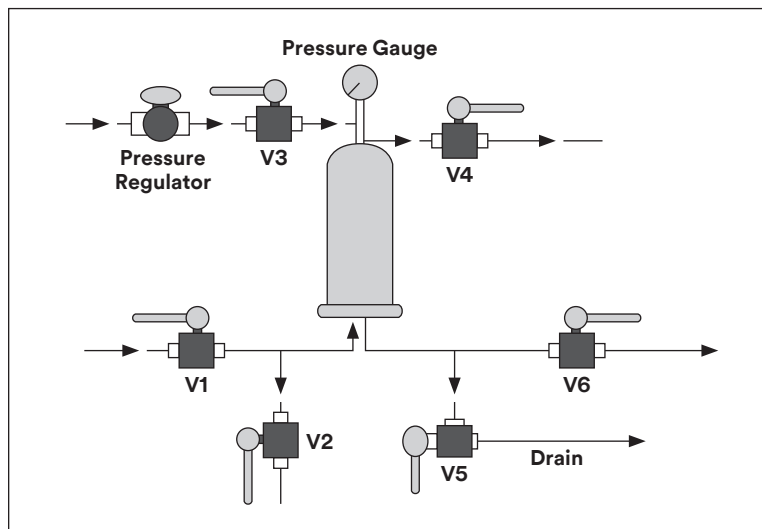

Figure 1. Schematic of the Manual PHT.
The 3M™ 101 Series Automated Integrity Tester can be used to perform a PHT. When using the 3M 101 Series unit, follow the installation instructions for connecting the unit to the upstream valve as shown in Figure 1. Consult the appropriate 3M Purification Inc. literature for the test pressure and PHT value for the filter cartridge to be used or calculate the maximum allowable value using the following equation. Program these values into the 3M 101 Series Automated Integrity Tester when requested during the test set-up.
## 2. Procedure (Manual Testing — Figure 1)
- A. Configure the system as shown in Figure 1.